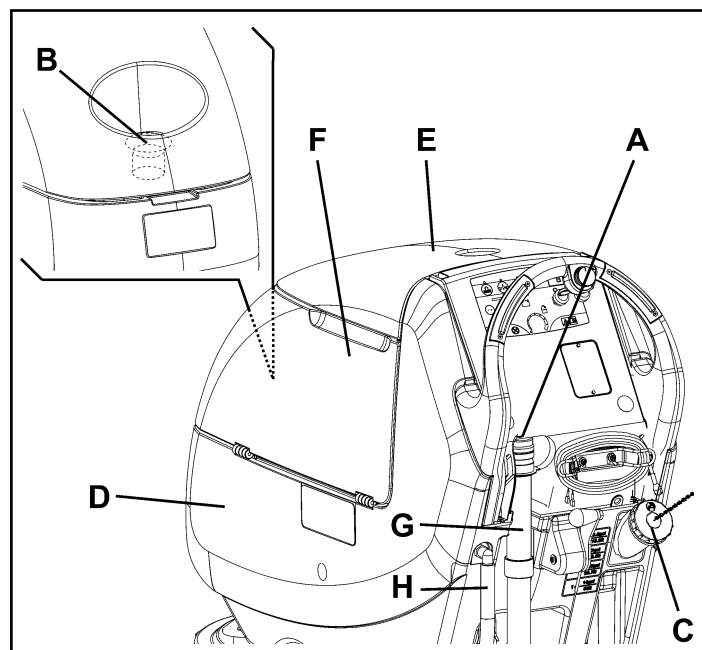

Figure 14
1. Open the filler neck (A, Fig.14).